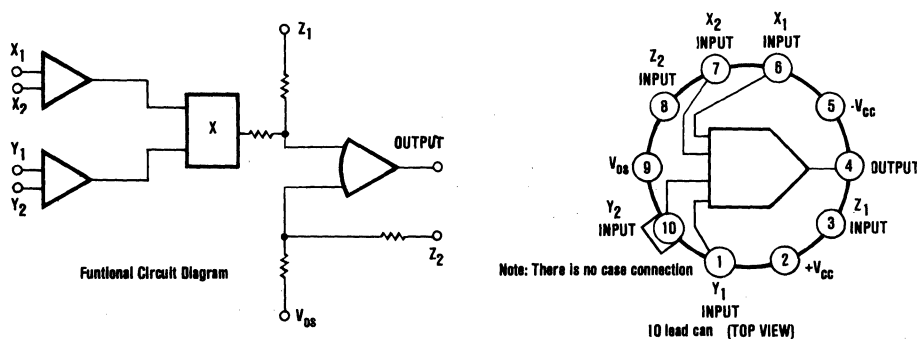

FIGURE 1. Functional Circuit Diagram and Terminal Connections.
3.2.8 Circuit diagram and terminal connections. The circuit diagram and terminal connections are shown in Figure 1.